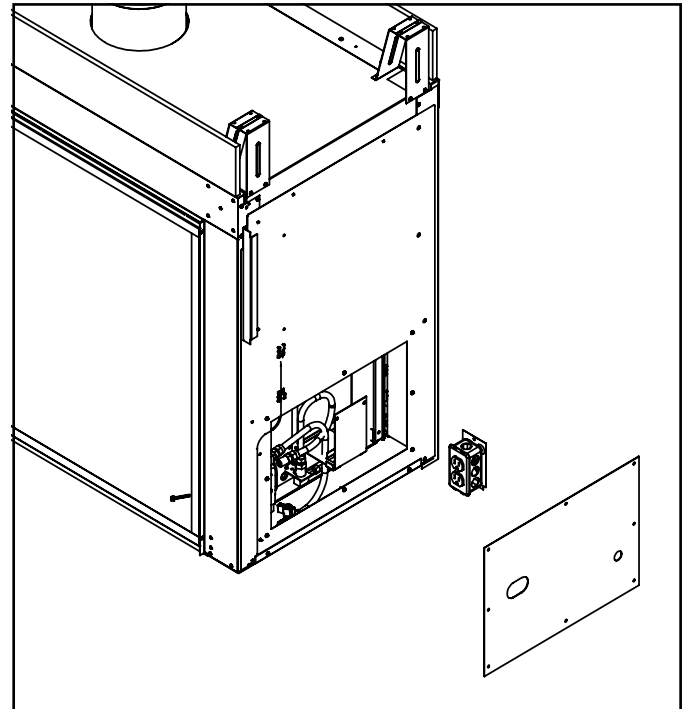

Figure 8.1 Junction Box Detail
- Pull the electrical wires from outside the appliance through the opening into the valve compartment and secure wires with a Romex connector. See Figure 8.1.